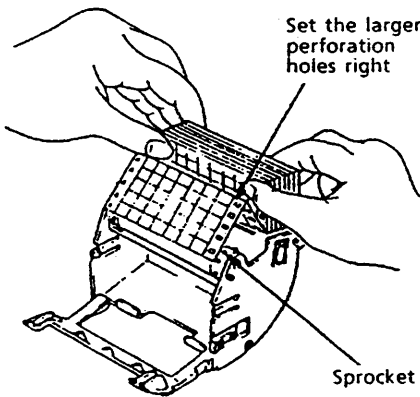
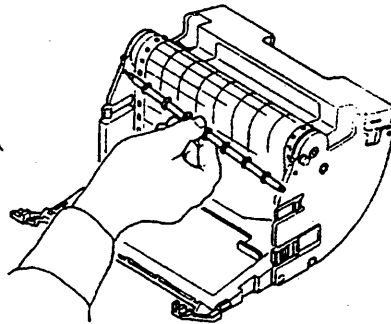

Figure 5.4 Load Chart Paper
Figure 5.5 Set the Chart Pressure Roller
- (6) Load the chart paper into the top hopper of the compartment making sure that the sprocket teeth of the chart drive are correctly engaged in the chart paper perforation holes. (Take care not to invert the chart feeding direction.) (see Figure 5.4.)
- (7) Place the rear chart guide plate back into position. Holding both right and left ends of the chart in your hands, turn the rear chart guide plate down towards you to load the chart.
- (8) Set the chart pressure roller. (See Figure 5.5.)